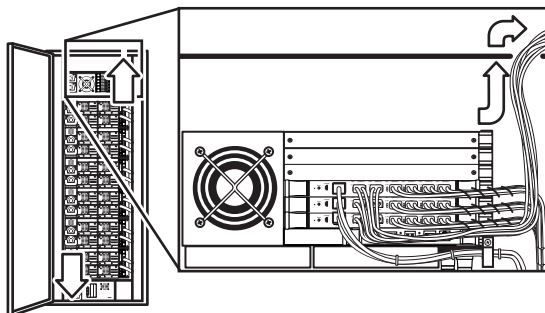

Figure 56: Connecting FC cables
1. Connect two FC cables (not provided) from the interface controllers, through an access hole in the library cabinet, and to a switch or Host Bus Adapter (HBA) (see Figure 56).